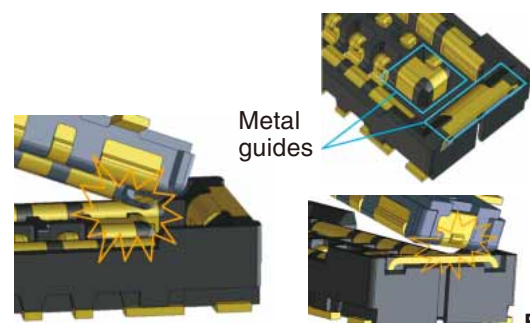

Fig.3
3. The proprietary metal guide prevents the connector from being damaged against offset mating. (Fig.3)